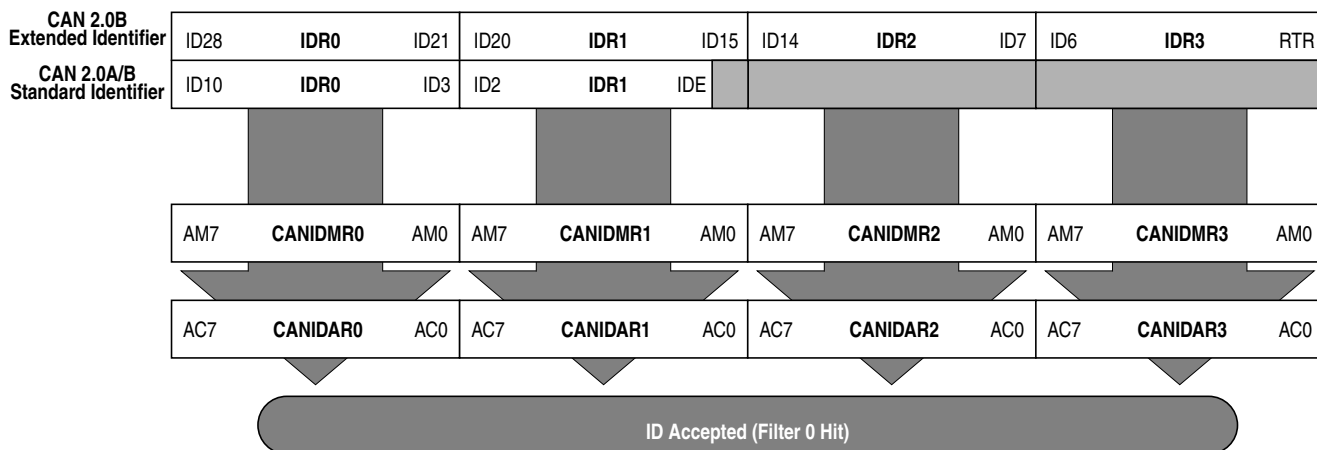

Figure 8-40. 32-bit Maskable Identifier Acceptance Filter
- The 11 bits of the standard identifier plus the RTR and IDE bits of the CAN 2.0A/B messages¹. This mode implements two filters for a full length CAN 2.0B compliant extended identifier. Figure 8-40 shows how the first 32-bit filter bank (CANIDAR0–CANIDAR3, CANIDMR0–CANIDMR3) produces a filter 0 hit. Similarly, the second filter bank (CANIDAR4–CANIDAR7, CANIDMR4–CANIDMR7) produces a filter 1 hit.